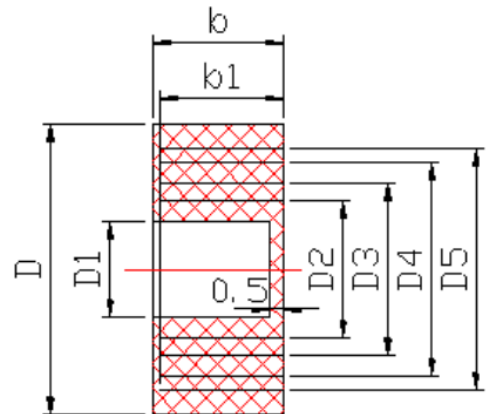

Figure 3
6.2.6 External diameter of the cable should fit bore diameter of the seal ring (Figure 3). Cable's min diameter is D1, max is D5; seal ring is made of rubber XH-21, specification and dimension see table 5 (concentric-ring of seal gasket can be stripped off to fit inner diameter of lead-in cable). The diameter gap should not exceed 1mm. Clamp the connection plug and ensure that there is no clearance between seal ring and power cable as well as between seal ring and connection box body, otherwise the motor will lose its flameproof function.